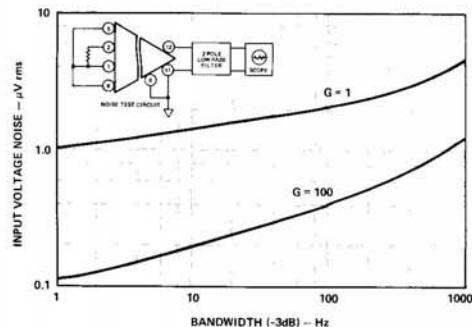

Figure 9. Typical Input Voltage Noise vs. Bandwidth
**Input Voltage Noise:** Voltage noise, referred to input, is dependent on gain and bandwidth as illustrated in Figure 9. RMS voltage noise is shown in a bandwidth from 0.01Hz to the frequency shown on the horizontal axis. The noise in a bandwidth from 0.01Hz to 10Hz is  $1\mu V$  pk-pk at a gain of 100V/V. This value is derived by multiplying the rms value at  $f = 10Hz$  shown in Figure 9 by 6.6.